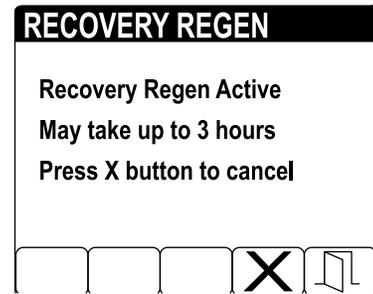

Figure 60
8. The InfoCenter displays the time to complete message (Figure 60).